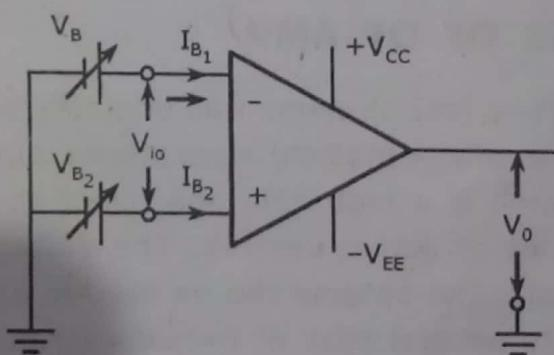

Fig. 7.3.4 Determination of Input Offset Current by Adjusting I_{B1} and I_{B2}
- (8) **Input Offset Current :** Fig. 7.3.4 shows determination of input offset current of Op-Amp,